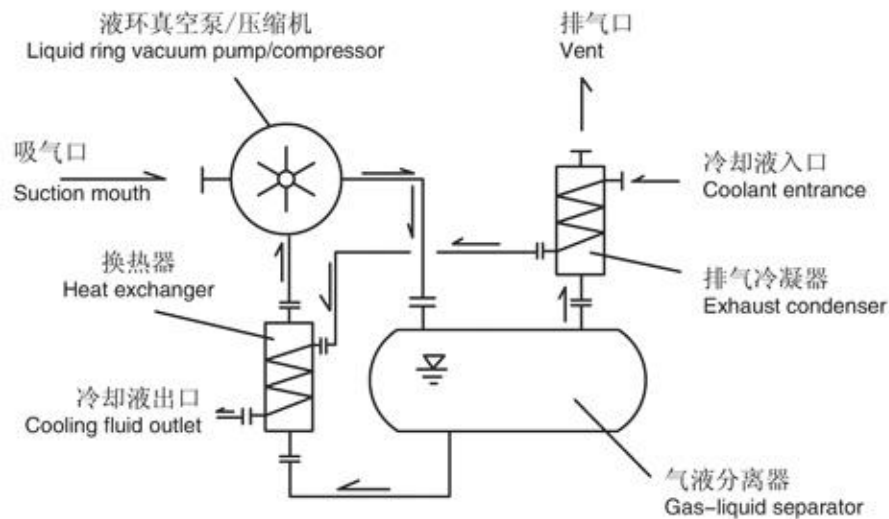

图3 液环真空泵闭环系统流程图(用于回收溶剂)
- 2、工作液体采用被抽介质，排气口增加排气冷凝器。流程图如图 3
Figure 3 liquid ring vacuum pump closed loop system flow chart (for recycling the solvent)